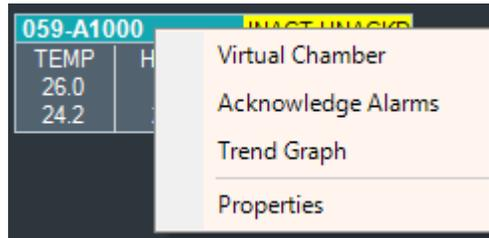

Figure 6-2 Chamber Menu
1. On the Central Management dashboard, right-click the thumbnail of a Chamber. The Chamber menu appears (Figure 6-2).